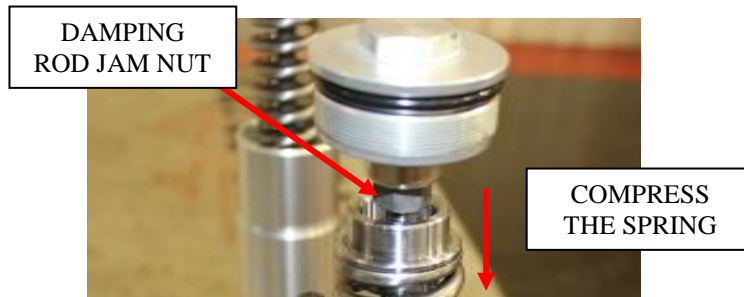

Figure 26: Compress the spring to access the damping rod jam nut.
9. To release the fork cap from the damping rod, the spring must be compressed. The Indian spring compressor tool (PV-49464) or a universal fork spring compressor tool is recommended for use. Compress the spring enough to get a wrench on the jam nut. See Figure 26.